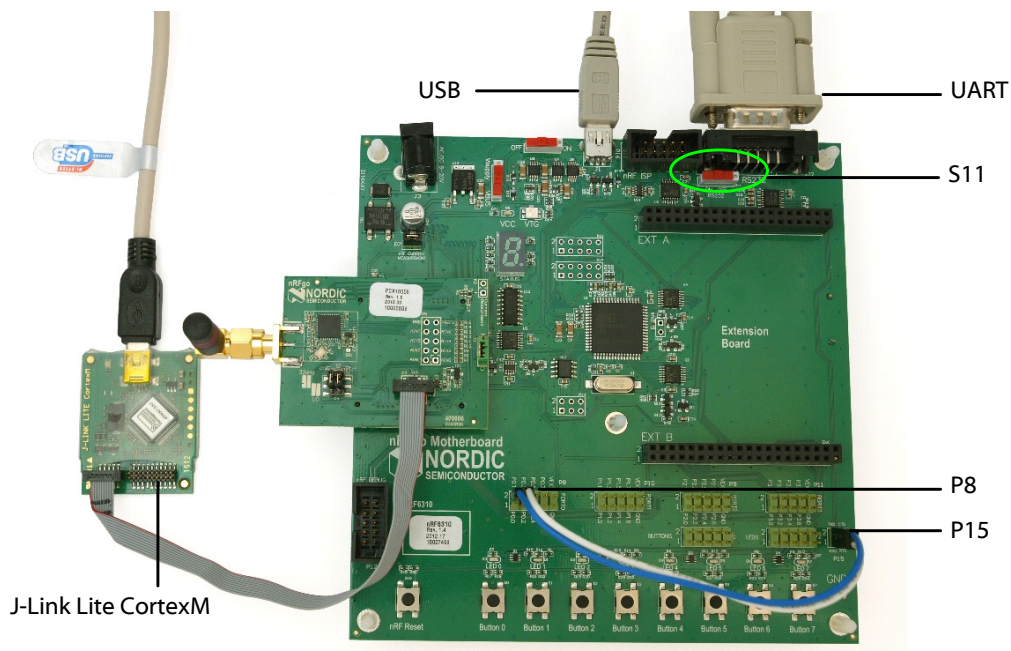

Figure 38 UART setup for DTM
2. Connect a double cable, or two single cables, between **P15** and **P8** on the Motherboard as shown in **Figure 38**. The UART data pins RXD and TXD will be present on the I/O port pins P0.1 and P0.3—make sure the RXD/TXD labels match for each wire.